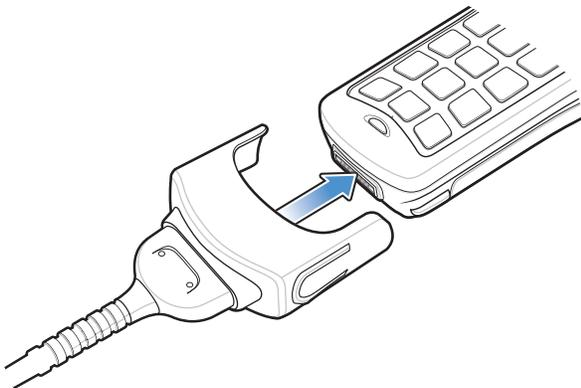

Figure 2-10 Cable Connection
- Connect the mobile computer to the host computer. See Figure 2-2 on page 2-3 to set up a Single Slot Serial/USB cradle, or see Figure 2-10 on page 2-12 to set up a cable.
14. Connect the mobile computer to the host computer. See Figure 2-2 on page 2-3 to set up a Single Slot Serial/USB Cradle, or see Figure 2-10 on page 2-12 to set up a cable.